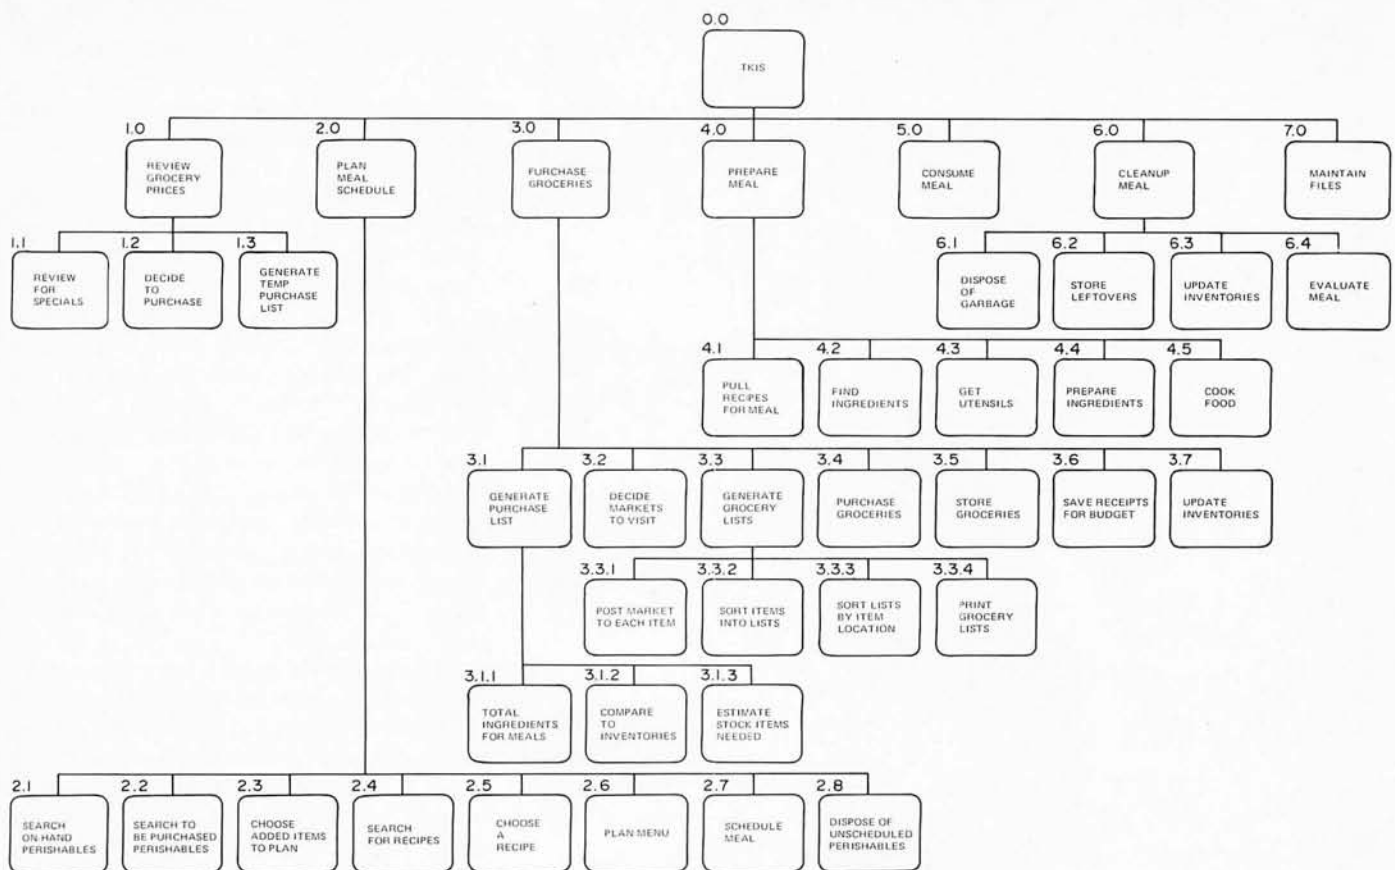

Figure 1: Functions of Total Kitchen Information System.
Figure 1 shows the functions to be performed by a TKIS, structured in hierarchic fashion — meaning that every function is made up of several subfunctions, each function box performs one general task which can be divided into several specific tasks, and so on. This chart differs from a flowchart in that the function boxes are not necessarily performed in left to right order, nor are the conditions for execution given. The hierarchy (H) chart attempts to outline *what* a system must do, but not *how*, *when*, or *if*.